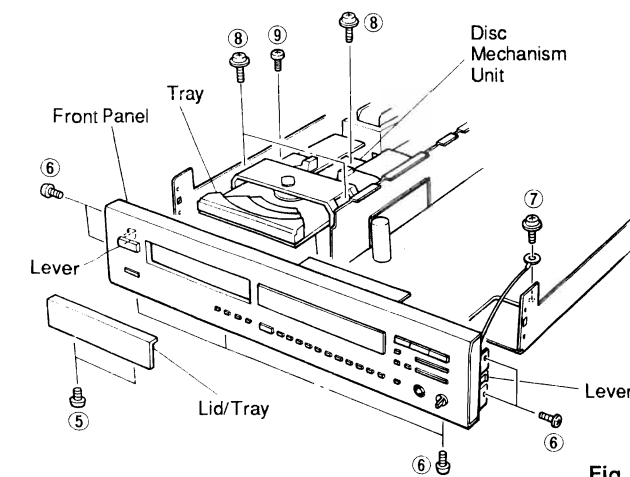

Fig. 2
- b. Turn OFF the power, remove 2 screws (⑤) and remove the lid/tray in Fig. 2.
- d. Remove 7 screws (⑥) and a screw (⑦) * in Fig. 2.
- e. Release 2 levers (one on each side) and pull out the Front Panel in Fig. 2.
- a. Remove 3 screws (⑧) and a screw (⑨) in Fig. 2.